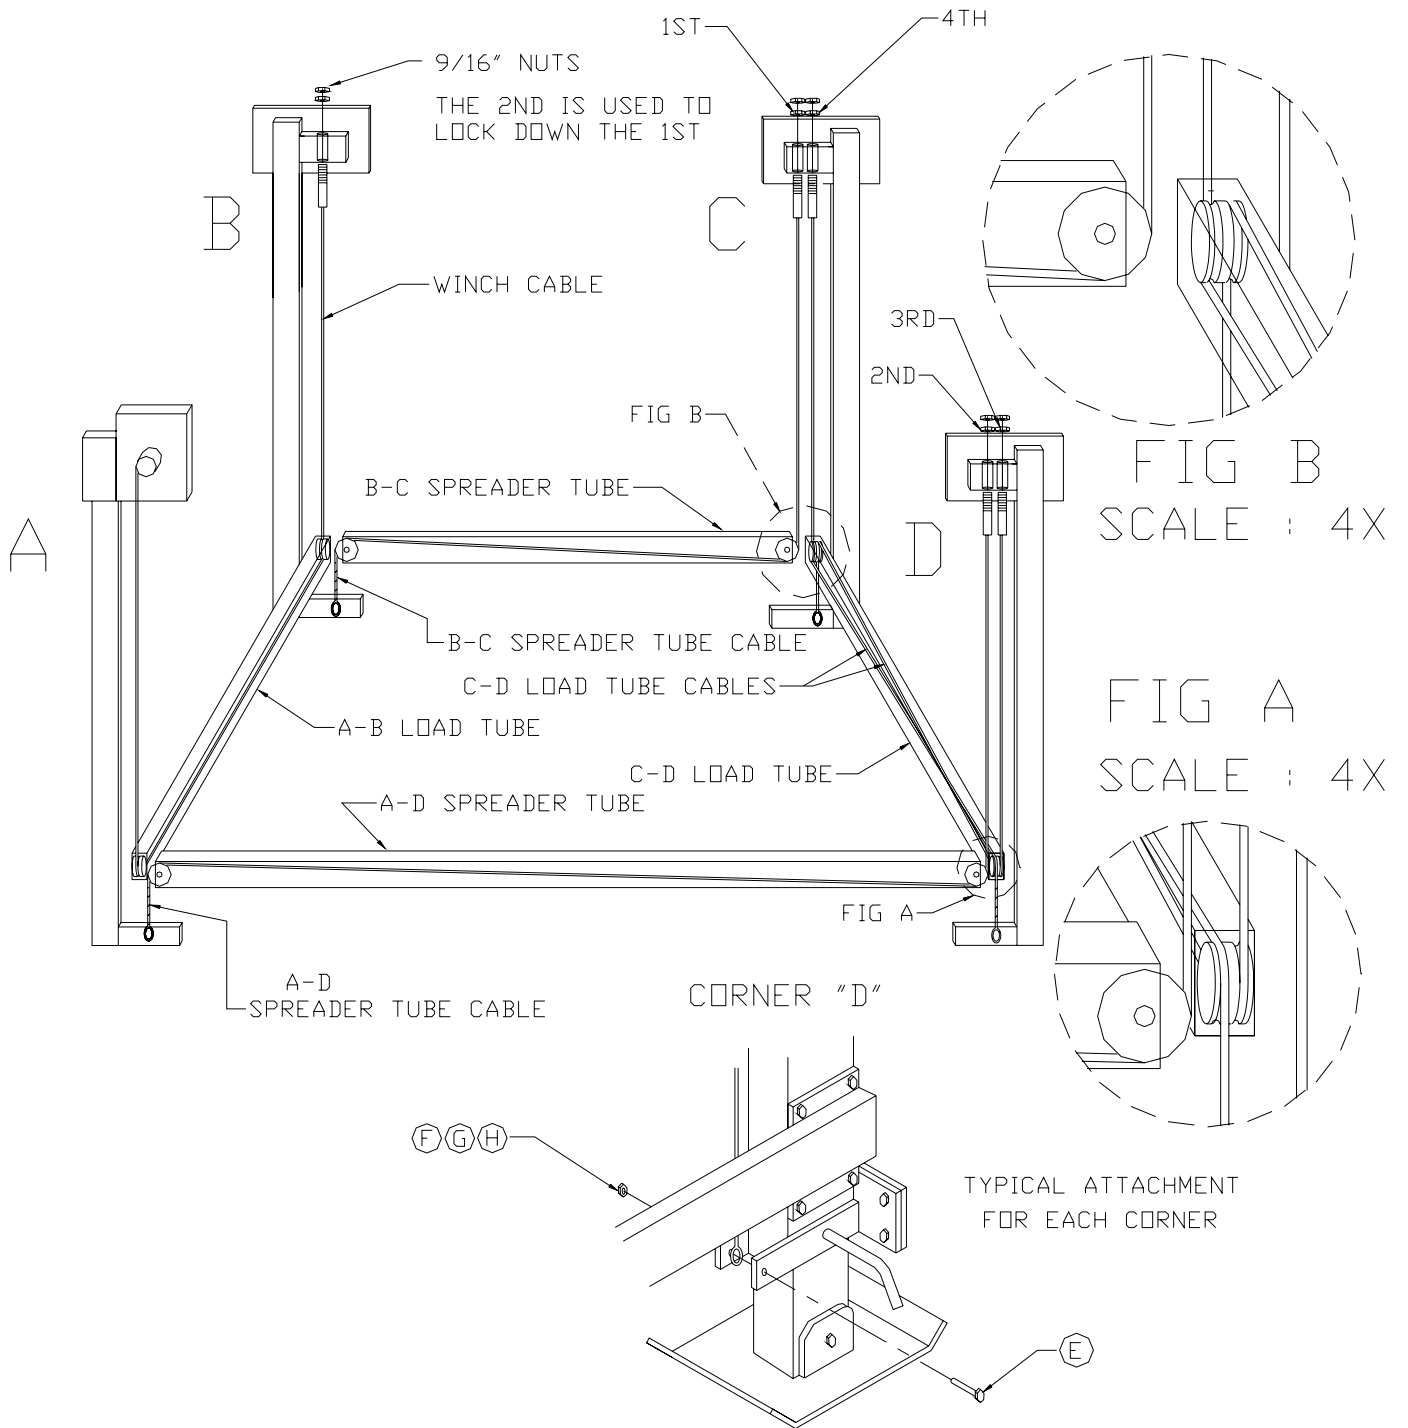

Figure 2-1.
2. Refer to Figure 2-1. Fasten the cable end loops to the bracket provided at the bottom of each of the four vertical legs using the 1/2" x 3-1/2" bolts and 1/2" locknuts supplied with your vertical lift assembly.
3. Using a 7/8" open-end wrench, tighten the cable studs opposite the cable end loops in the following order. The following step numbers correspond to the step numbers shown in Figure 2-1.
7. Refer to Figure 2-1. Tighten down the nut to fasten the A-B load tube cable stud to leg B. Add and tighten a jam nut to the cable nut to lock the position.